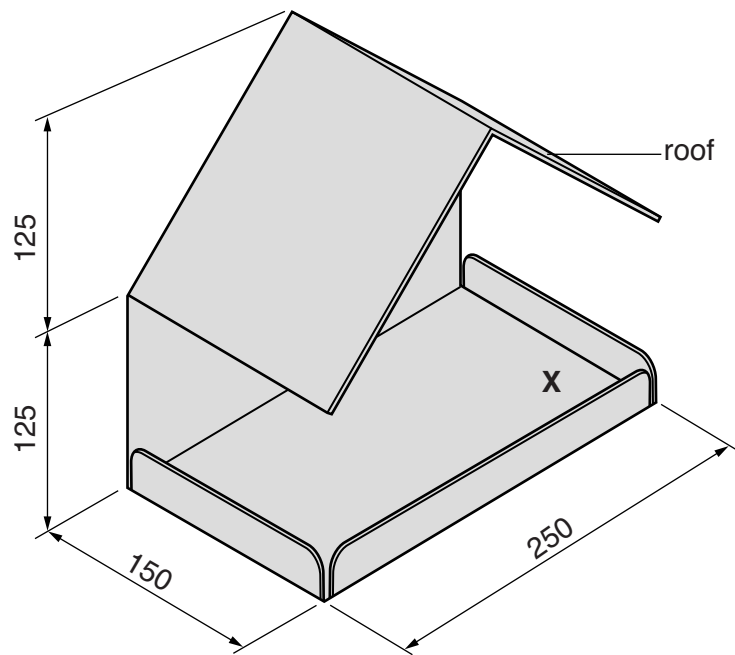

Fig. 15
13 Fig. 15 shows an incomplete design for a bird feeder made from 1.5 thick aluminium sheet.
- (d) A container to hold water is required. The position for the container is shown at **X** in Fig. 15. The container will be made from vacuum formed plastic.